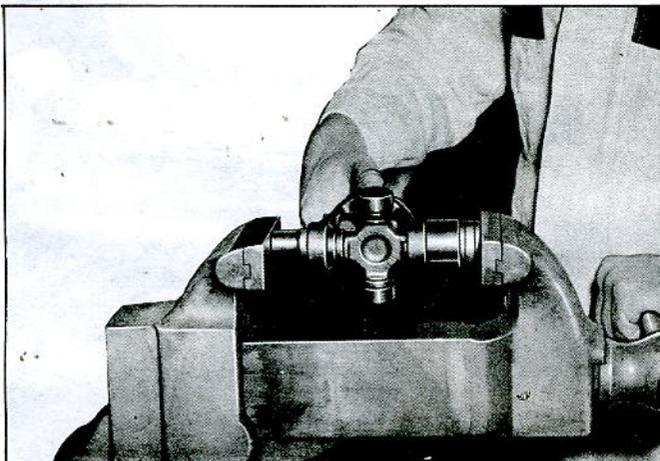

Fig. 4—Removing Bearing Caps
2. Support trunnion yoke on a piece of 1-1/4" I.D. pipe (or a suitable socket) on an arbor press (fig. 4).